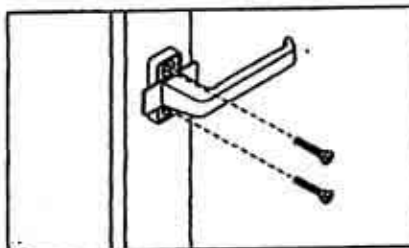

Figure 5-5. Where to install the mounting screws
- 2.4 Lock position: rotate the SA-FE-Handle to the horizontal Glide position. This gives you access to both of the screw holes. Insert the screws that came with handle and tighten them. See fig. 5-5. Go to Step 2.7.
- 2.6 Glide position: insert the screws that came with the handle and tighten them. See fig. 5-5.